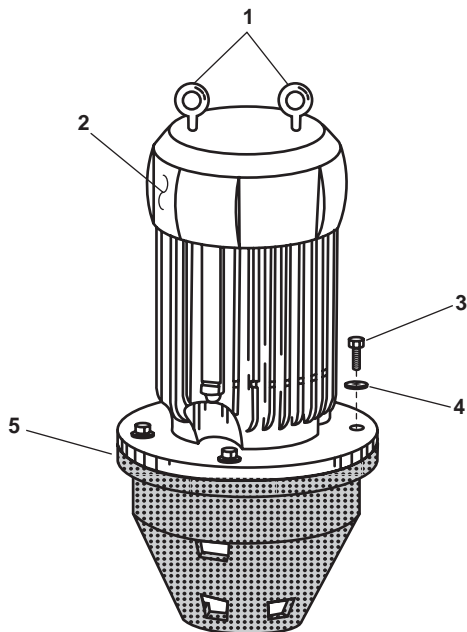

Figure 2. Fire and General Service Pump Motor
4. Attach the chain hoist to the eye pads (figure 2, item 1) on the motor (figure 2, item 2), and take a slight strain to remove the slack from the chain.
5. Remove the four bolts (figure 2, item 3) and the four flat washers (figure 2, item 4) from the motor (figure 2, item 2).
6. Slowly lift the motor (figure 2, item 2) off the foundation (figure 2, item 5) using the chain hoist. Lower it to the deck.
1. Attach the chain hoist to the eye pads (figure 2, item 1) on the motor (figure 2, item 2) and take a slight strain to remove the slack from the chain.
2. Slowly lift the motor (figure 2, item 2) and position it on the foundation (figure 2, item 5).
3. Verify that the mounting holes on the motor (figure 2, item 2) are aligned with the holes on the foundation (figure 2, item 5).
4. Install the motor (figure 2, item 2) on the foundation, and secure it with the four bolts (figure 2, item 3) and the four flat washers (figure 2, item 4).
5. Remove the chain hoist from the motor (figure 2, item 2).